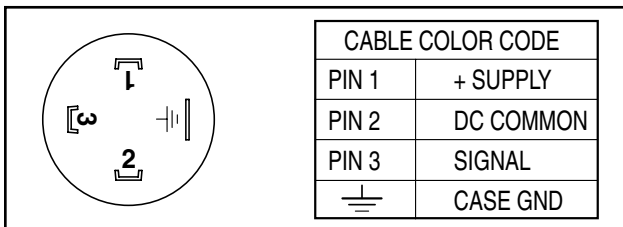

Figure 34 - Pressure Transducer Color Key
3. Refer to Figure 34 to identify wiring harness connectors.